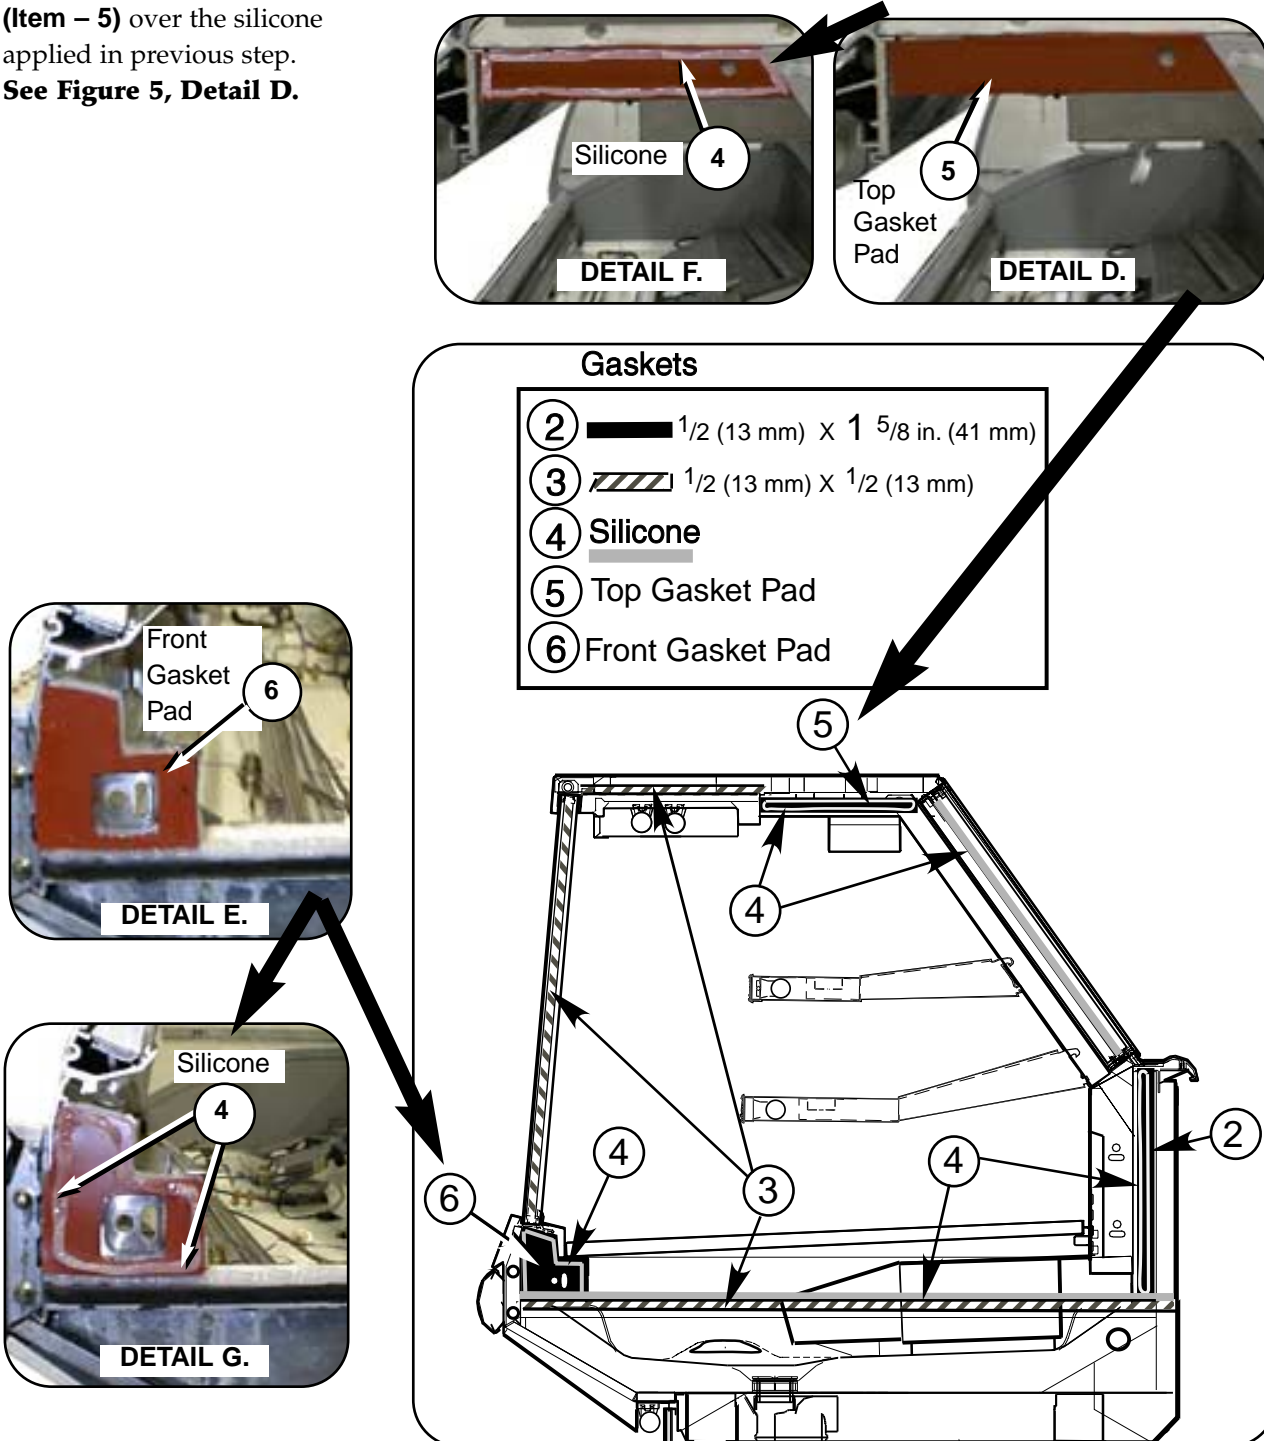

Figure 5. Applying Top and Front Gasket Pads
- 6** Install the **Top Gasket Pad**, (Item – 5) over the silicone applied in previous step. See **Figure 5, Detail D.**